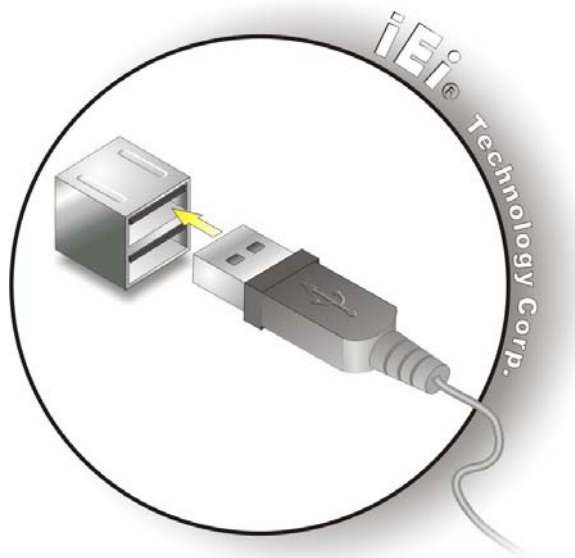

Figure 4-14: USB Connector
Step 2: **Insert a USB Series "A" plug.** Insert the USB Series "A" plug of a device into the USB Series "A" receptacle on the external peripheral interface. See **Figure 4-14**.